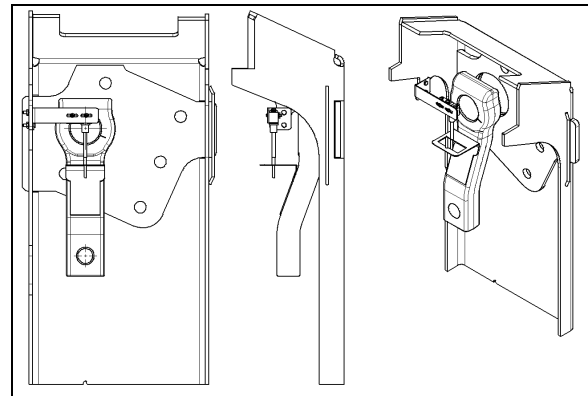

FIGURE 16: TAG AXLE UNLOADING SWITCH ADJUSTMENT
2. Line up switch lever with reference to the bracket center (Refer to figure 16).